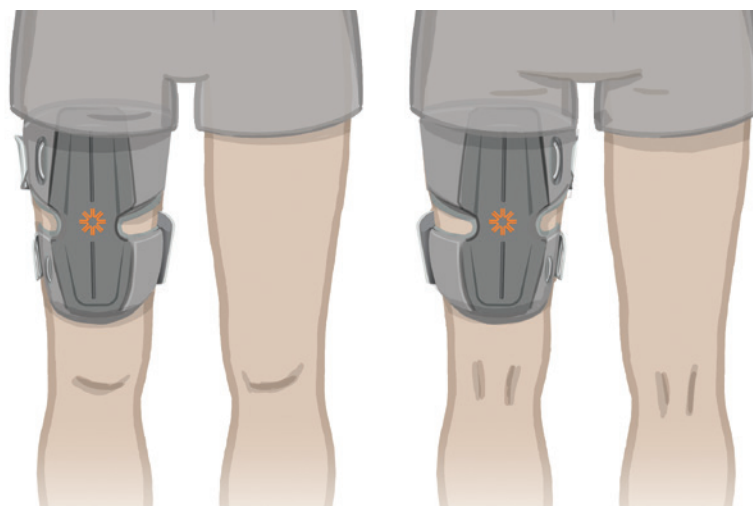

Figure 8-19: Correct Position of the Thigh FS Cuff
5. Center the bridge on the midline of the thigh. See Figure 8-19.
6. Fasten the straps by inserting the strap buckle into the hook attached to the thigh FS Cuff panels. See Figure 8-19. If needed, tighten the strap tension by adjusting the strap fasteners.